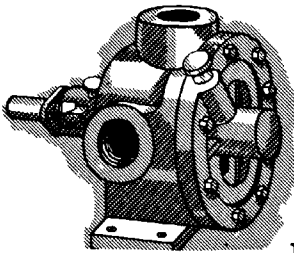

FIG. 44
which combined with the rotary motion of the rotor is responsible for the functioning of the pump, may be induced by various forms of pump construction. In Fig. 44, for example, the pump chamber is round and the shaft and rotor have been located off center for this purpose. The centrifugal force set up by the revolving rotor and the pressure of the fluid within the pump chamber cause the vanes to slide outward in their slots and hug the surface of the pump chamber. Since the rotor is off center and practically touches the pump body at point (A), Fig. 44, the vanes are forced into their slots when they are carried past this point. Then, continuing its rotation in a counterclockwise direction from (A) each vane gradually emerges from its slot and in so doing enlarges the space (B) directly behind and thereby creates a suction in this part of the pump chamber.